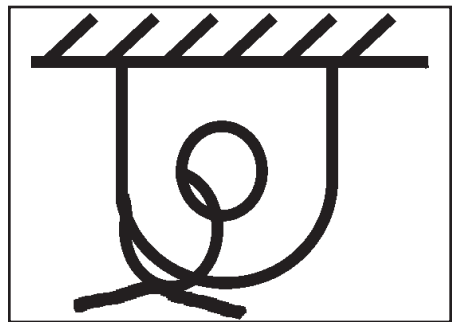

Fig. 75 - Tie-Down Point Identifier
- c. Securely strap the machine at the tie-down points (Fig. 75) to the platform. Use only belts or chains of sufficient capacity.